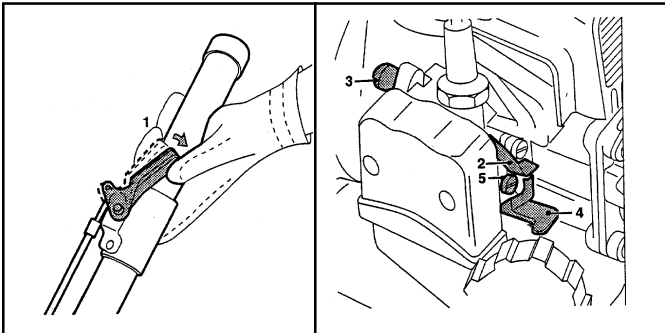

Figure 2.4
5. Push simultaneously the black priming pump (3) and the tickler lever (4) (Fig 2.5) until fuel comes out of the overflow pipe (c). (Fig 2.4)